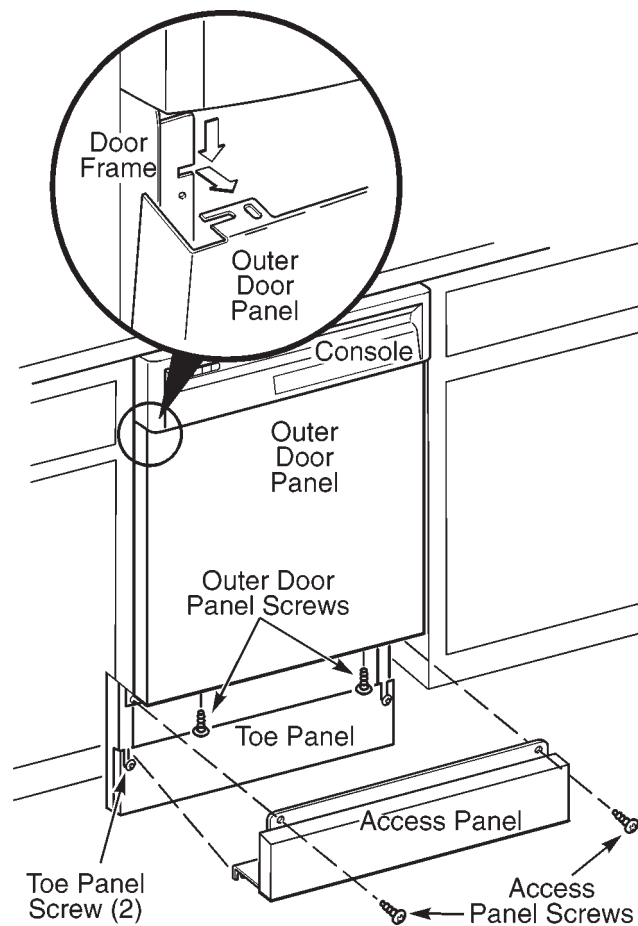

Fig. 2-1
1. Loosen but do not remove the two (2) toe panel screws below the access panel. Remove and set aside the two (2) screws above the access panel. (Fig. 2-1)
2. Remove the access panel assembly by sliding it upward to clear the loosened screws. (Fig. 2-1)
3. Remove the two (2) screws from the bottom of the outer door panel. (Fig. 2-1)
4. Pull the bottom of the outer door panel outward and slide it down approximately $\frac{1}{4}$ " to $\frac{1}{2}$ ". The panel will then be free for removal. (Fig. 2-1, inset)